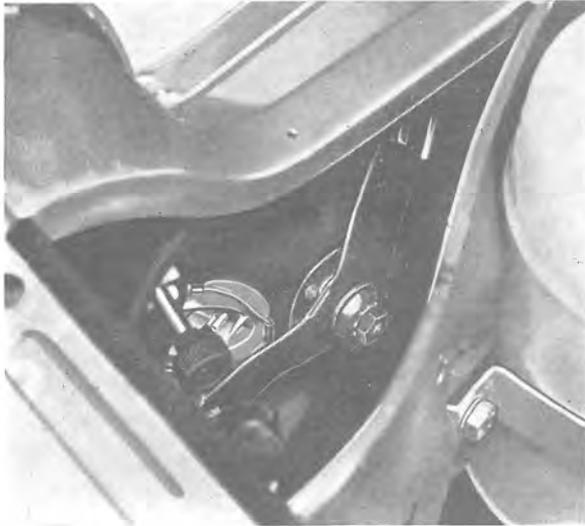

Fig. 3-68. Foglight attachment
7. Check the light setting. To adjust vertically slacken the nut holding the lamp, see Fig. 3-68.